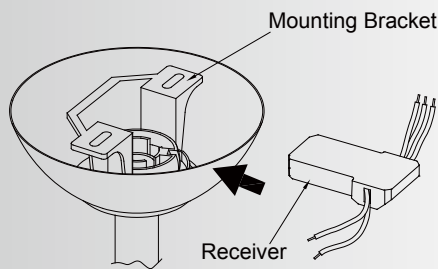

Fig. 16
Step 1. Insert the receiver into the mounting bracket, and keep flat in opposition of ceiling. (Fig. 16)